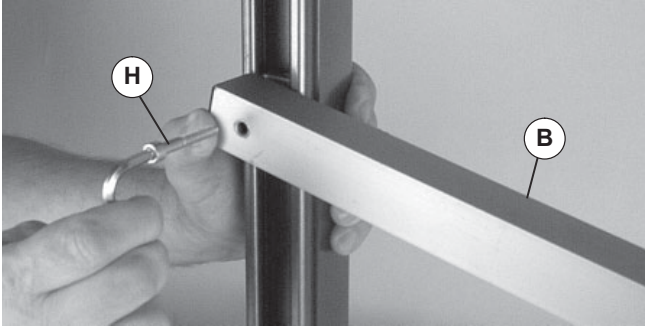
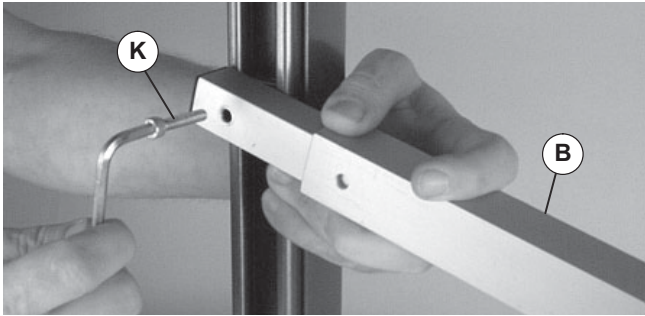

Figure 8
Figure 9
3. Loosely attach adjustable bar (Figure 8, item B) or (Figure 9, item B) to 90° bracket or steel stand channel as required.
- Attach outer tube end with screw (Figure 8, item H)
- Attach inner channel end with screw (Figure 9, item K)